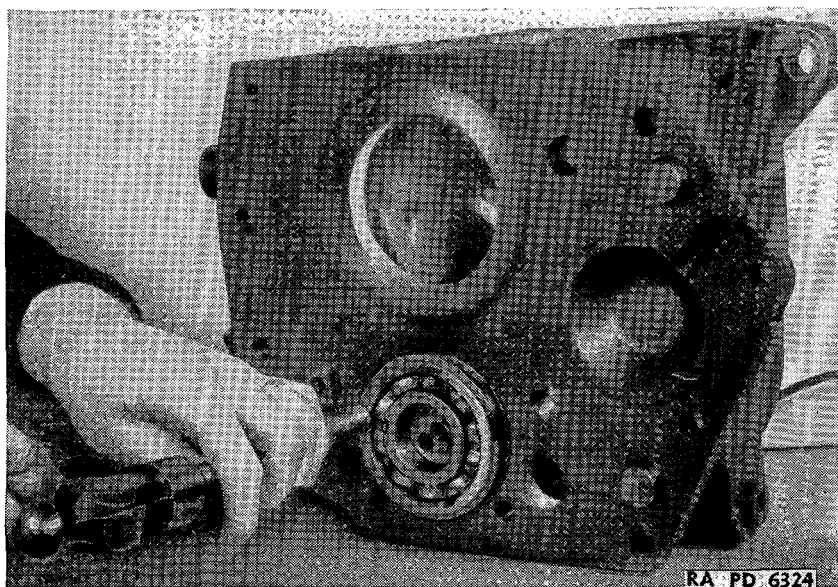

FIGURE 149.—Transmission countershaft rear bearing replacement.
(3) Replace first speed gear. Slide gear onto shaft through rear bearing bore in case. Replace first speed gear thrust washer.
(4) Replace countershaft rear bearing—brass drift, hammer. Drive or press bearing into case (fig. 149). Replace rear bearing retainer washer, two screws and locking wire.